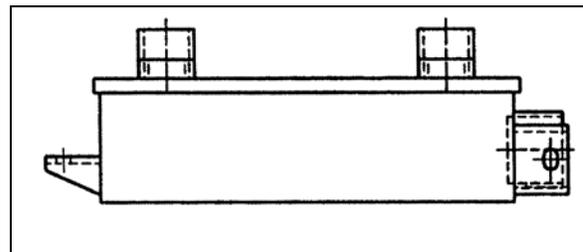

FIGURE 8: COOLER WITH RETARDER 07073
2. Disconnect the two transmission hoses from oil cooler. Cover hose ends and fittings to prevent fluid contamination (Figure 8).